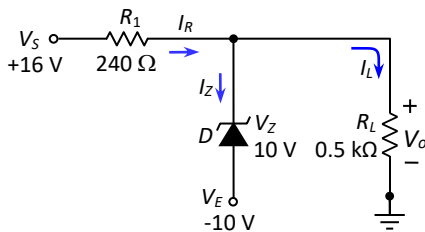

Fig.3-115: Zener diode circuit for Exercise no. 30
30. For the voltage stabilizer circuit of Fig.3-115, determine the value of i) I_R , I_Z , and I_L , ii) V_{R1} , V_O and V_Z , and iii) P_{R1} , P_Z , and P_L [Power ratings of different components]